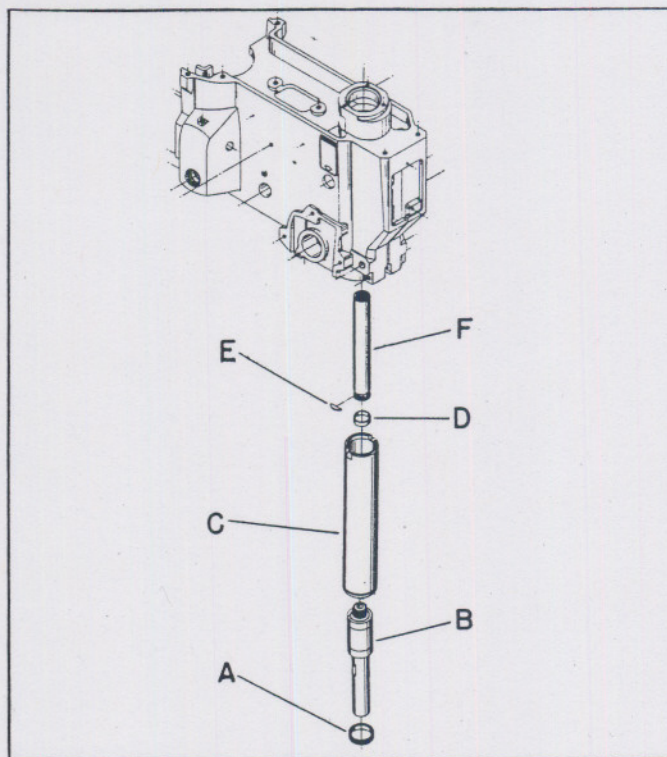

Fig. 4.
3. Using a spanner wrench remove bearing closure nut (A), and pull lower spindle (B) out of quill (C) Fig. 4.
4. Remove garter spring (D), and key (E), Fig. 4. Disengage sleeve (F) from spindle.